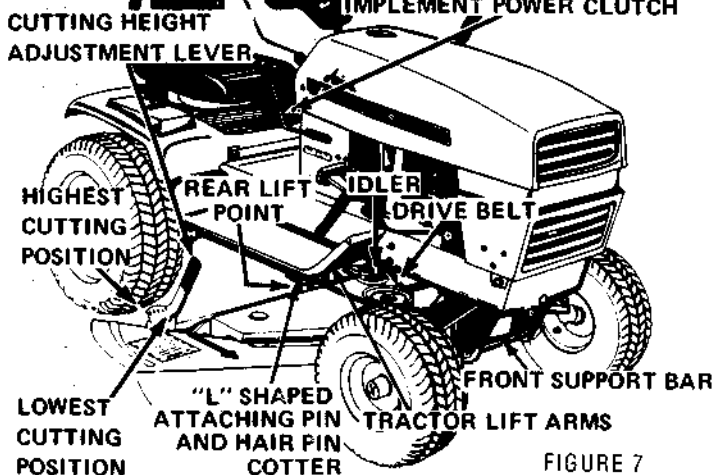

FIGURE 7
3. Place cutting height adjustment lever in the second lowest cutting position as shown in Figure 7.
5. Place the drive belt over the rear lift point and lower the attachment lift lever. Align ball joint of rear lift point to tractor lift arms and secure with the "L" shape attaching pin and hairpin cotter provided. See Figure 7.